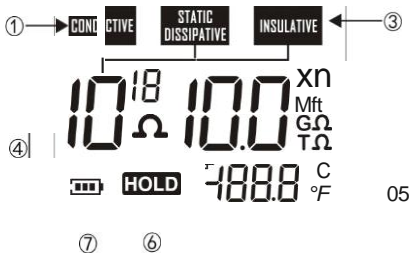

Figure 1
1. LCD full-screen display: see the following figure (Figure 1)
①. Conductor display